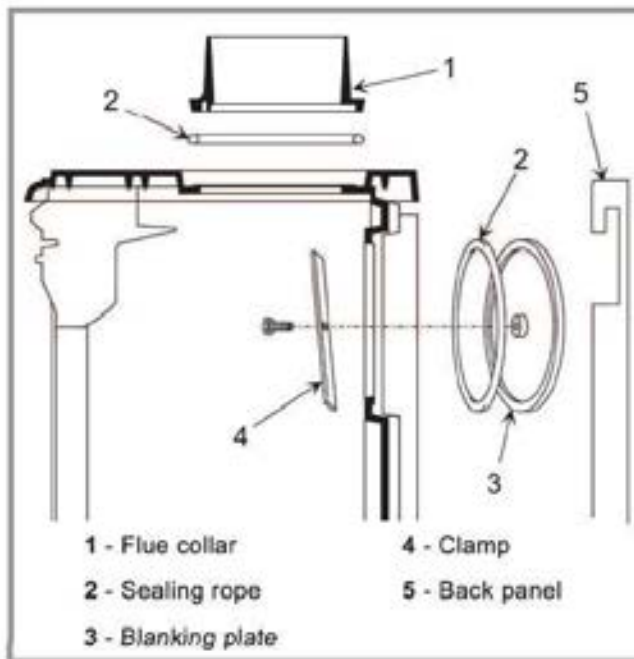

Figure 3 - Smoke exit on the top
2.4.1. Smoke exit on the top (figure 3)